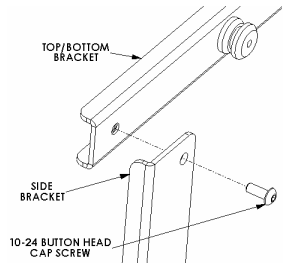
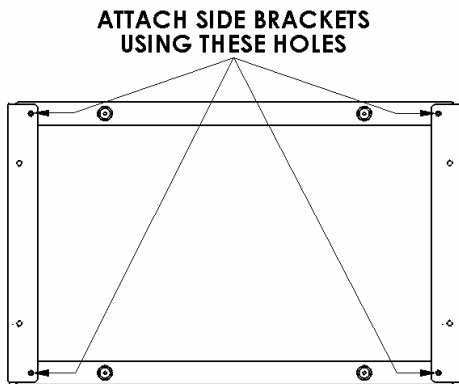

Figure 4
Figure 5
2. Using four 10-24 button head cap screws, attach top and bottom to side brackets (See Figure 4 & Figure 5).